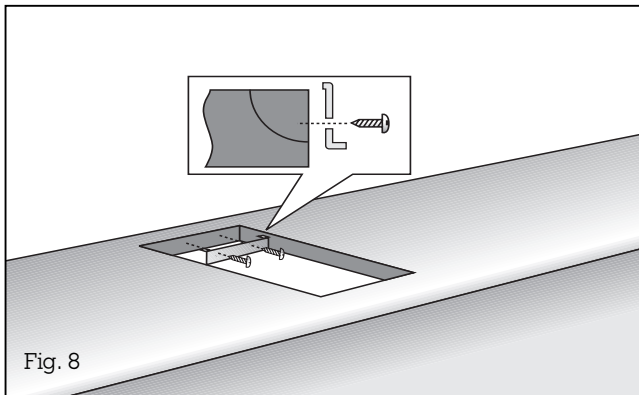

Fig. 8
- **Mark the centre** of the recess exactly. Secure the securing rail in the recess at the rear with the included wood screws. Make sure that the lugs of the securing rail lie on the worktop and that the centre marking of the securing rail is precisely flush with the centre marking on the worktop (Fig. 8). When installed in a stone worktop, the securing rail must be adhered with a suitable adhesive.